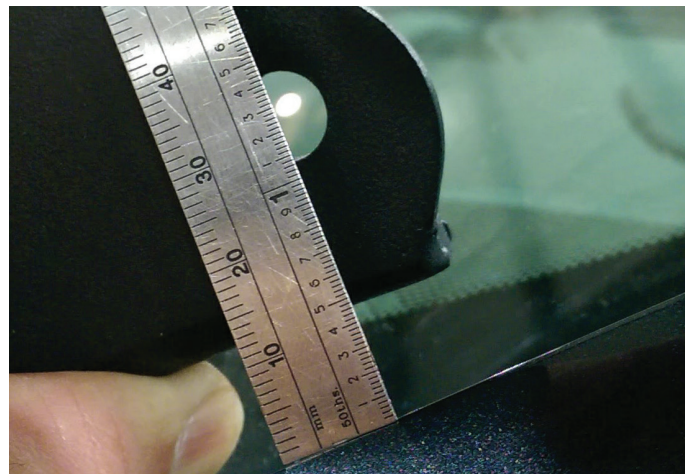

Figure 10
8. Using a ruler, set the height of the upper hole 1-1/16" above the closest portion of the fender profile. (Figure 10)